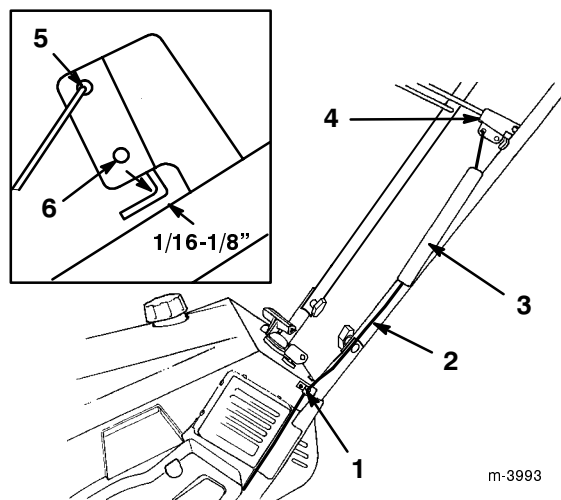

Figure 3
1. Route the control cable through the loop on the left side of the snowthrower (Fig. 3).
4. Slide the spring cover over the spring and the cable adjuster and push the spring end through the hole at the end of the spring cover (Fig. 3).
5. Hook the spring into the top hole of the control bar bracket (Fig. 3).
7. Ensure that a 1/16- to 1/8-inch (0.16 to 0.32 cm) gap exists between the control bar and the handle (Refer to the inset in Fig. 3). To adjust this gap, refer to *Adjusting the Control Cable* on page 15.